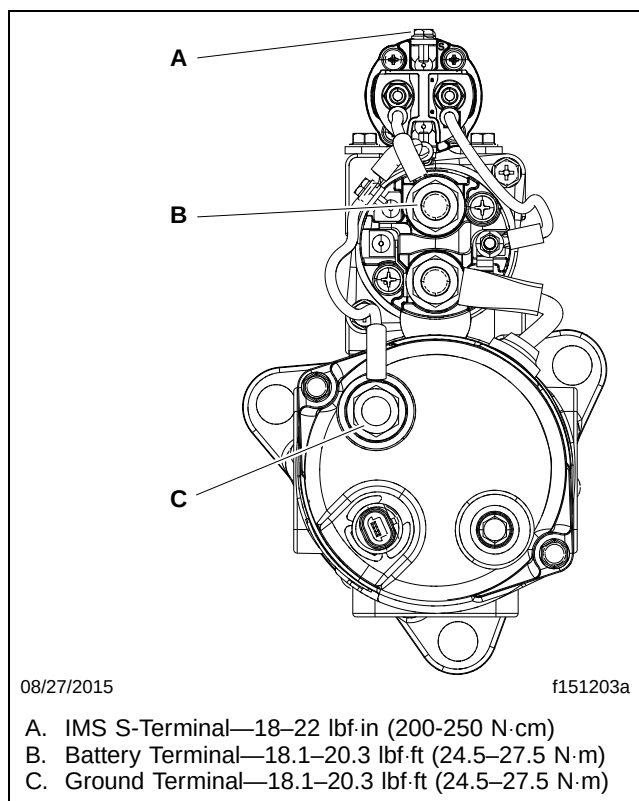

Fig. 2, Starter Terminal Torque Values
12. Connect the wiring to the solenoid and starter as previously marked. Tighten the terminals as indicated in **Fig. 2**.